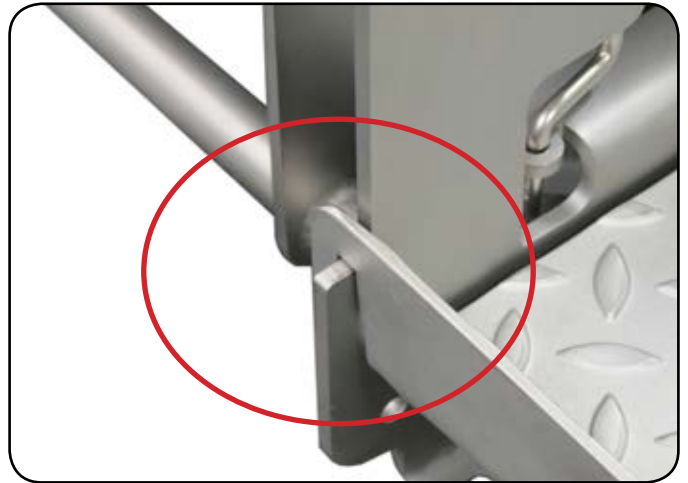

Figure 5
3. Figure 5 shows proper footplate placement.